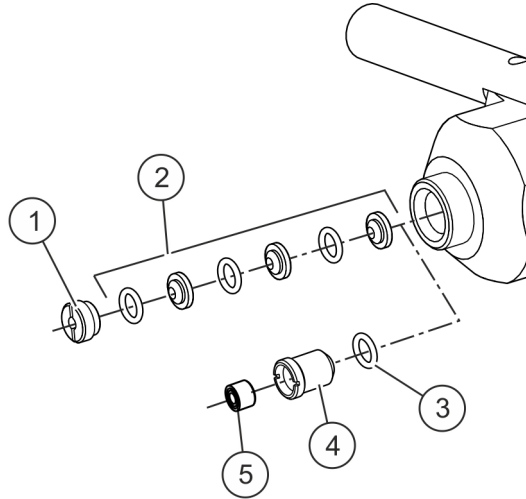

Fig. 12: Valve needle pack
3. ➔ Unscrew the seal screw ( Fig. 12/1) or needle guide ( Fig. 12/4) (depending on design).
4. ➔ Pull out the pack ( Fig. 12/2) or seals ( Fig. 12/3 and 5) (depending on the design).
Use a wire hook to pull out the pack ( Fig. 12/2). Be careful not to damage any threads.